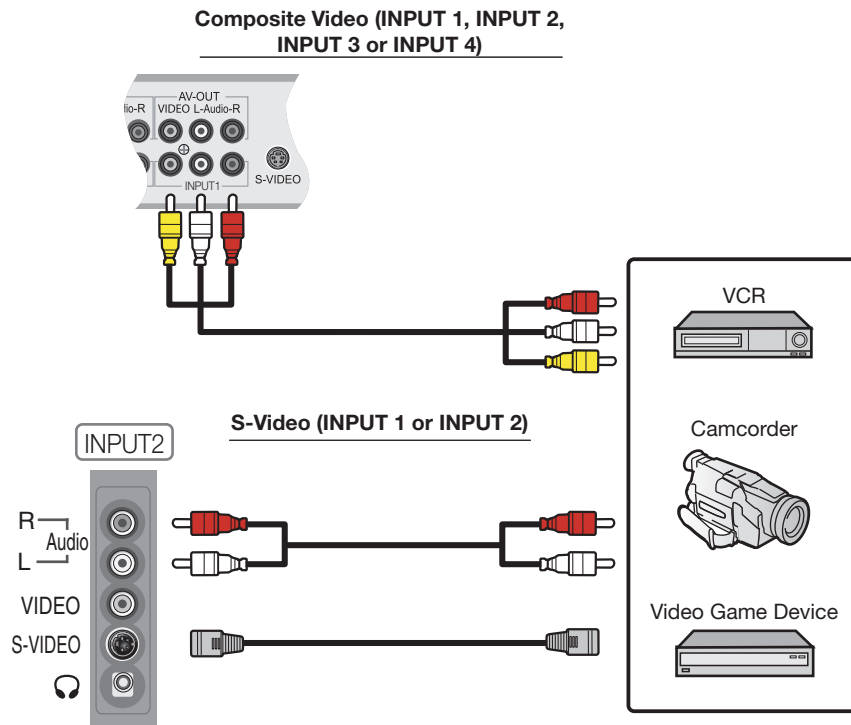

Figure 3-4. Composite and S-Video Connections
Composite/S-Video Connections: The Crystal Series LCD has two (2) S-Video and four (4) composite video inputs for connecting a VCR, camcorder, laser disc player or DVD player; see Figure 3-4.